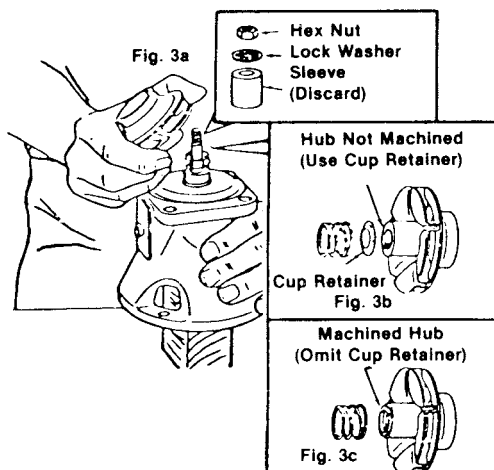

FIG 3. Installing impeller on new bearing assembly
- 5 Position new bearing assembly on a wood block (FIG. 3) to force shaft upward while installing Impeller. Then install impeller as follows: